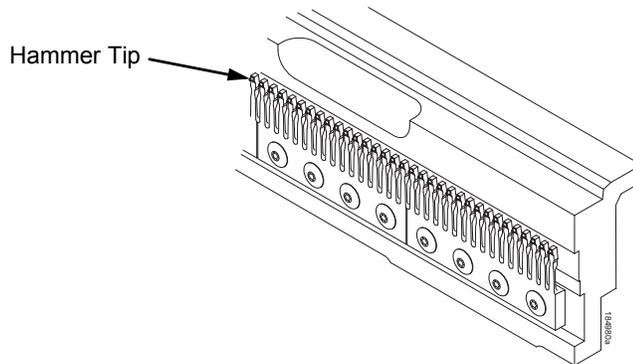

Figure 9. Cleaning the Hammer Tips
- Place the shuttle so that the base sits flat on the work surface. Use the brush provided to remove as much debris as possible from the hammer tips, brushing in a downward direction (Figure 9.). Rotate the shuttle 90° away from you and repeat the brushing this time working from the center of the shuttle outward towards both ends.